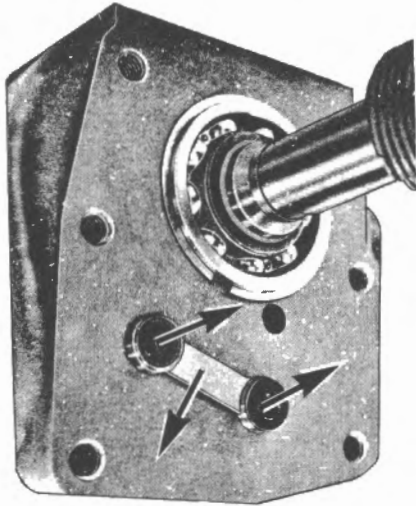

Fig. L-8
- 5 Using a soft drift, drive the layshaft from the front just sufficient to release the lock plate. Remove lock plate. Fig. L-8.